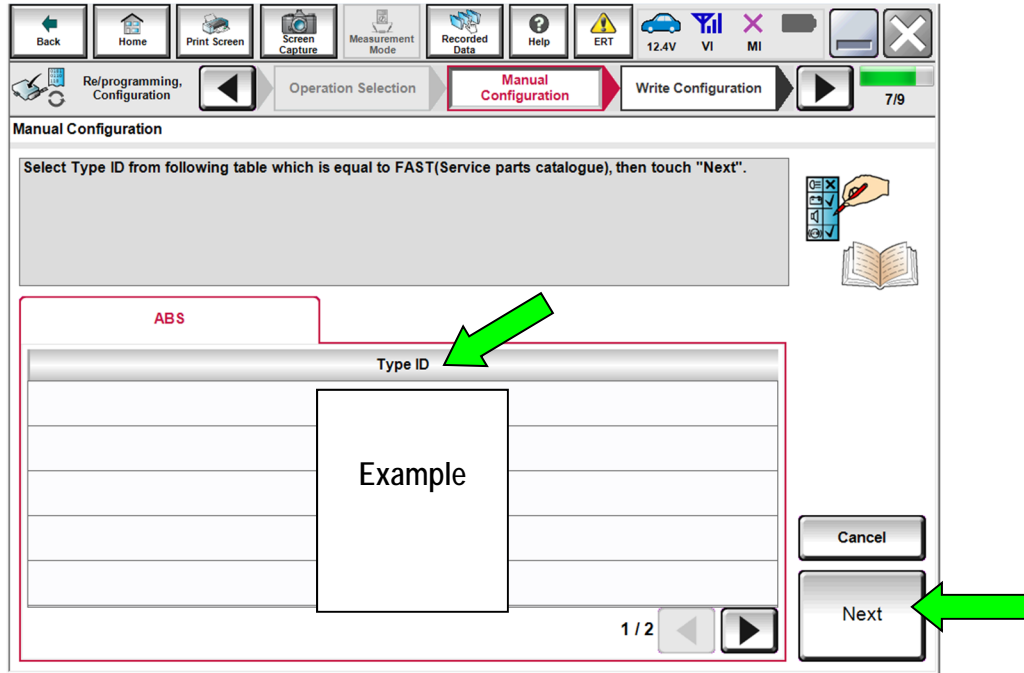

Figure 11
17. Select the Type ID (Figure 11) that was generated with the R1917/R1921 ABS Type ID Selection Tool in step 2.